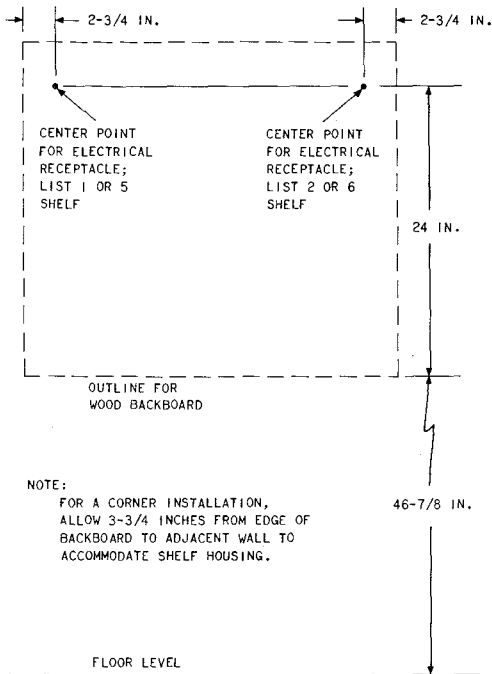

Fig. 8—Locating The Hole For Electrical Receptacle Behind Backboard
(2) Locate the center point for the electrical receptacle per Fig. 8.
(a) Lay out and mark locations on the backboard for drilling mounting holes. Ensure that backboard is positioned correctly for the list number housing being installed. Backboard shall be 46-7/8 inches from floor (Fig. 8).